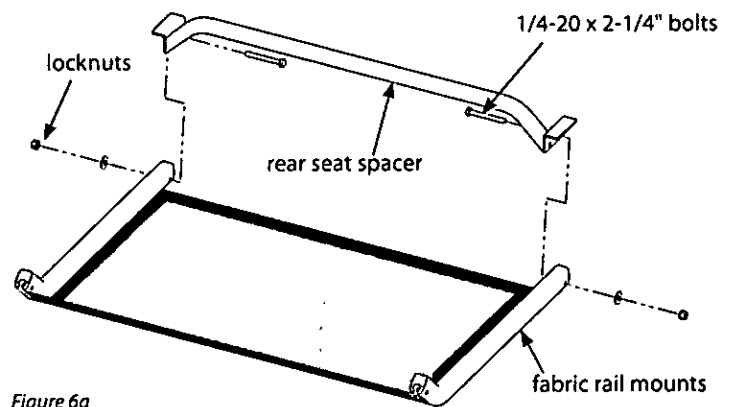

Figure 6a
8. a. Position the pre-assembled mesh seat/fabric rail mounts (360019) upside down on a sturdy, hard surface. Spread the rear of fabric rail mounts apart and insert the rear seat spacer weldment (410127). Temporarily insert (2) 1/4-20 x 2-1/4" bolts and locknuts. **SEE FIGURE 6a.**